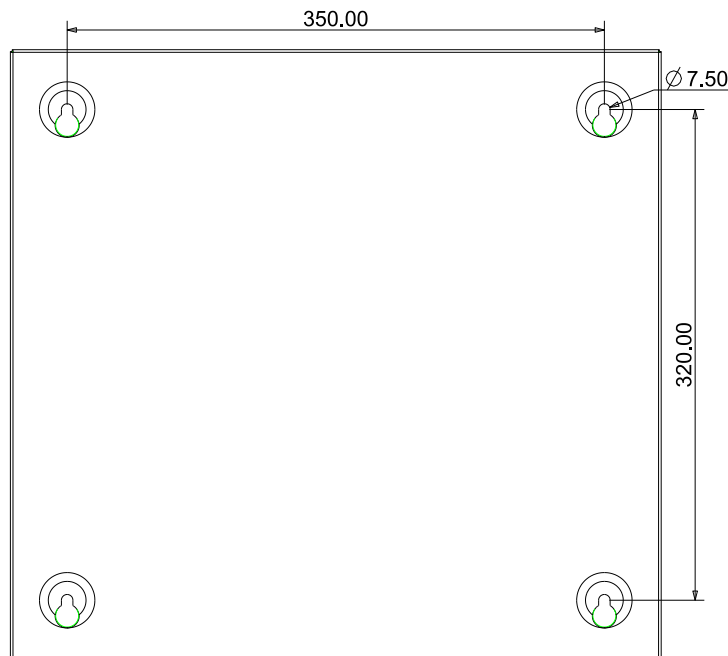

Fig. 2-1 Dimensions (mm)
3. Mark the drillings for 4 installation holes on the wall. (Fig. 2-1)